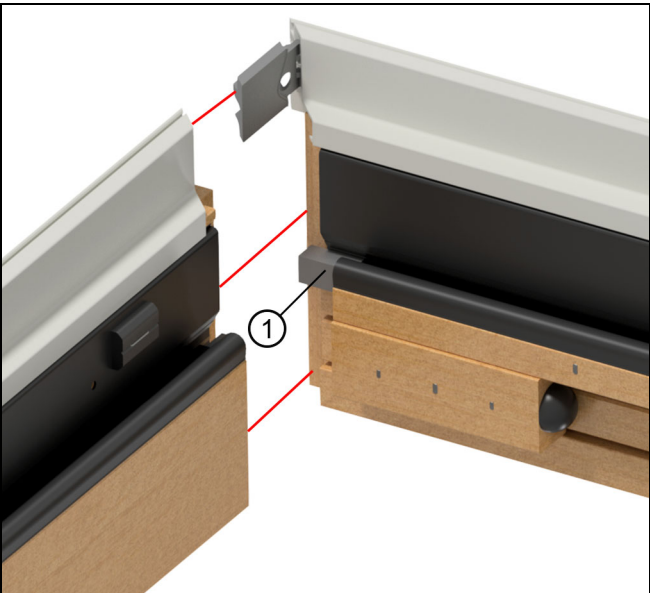
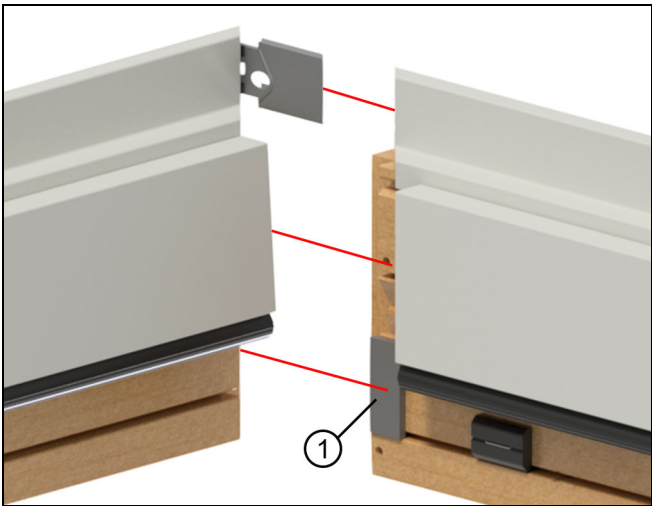

Figure 2 4 9/16"
Figure 3 6 9/16"
2. Assemble the head jamb into the side jambs being careful not to pinch the gaskets at the corners. See Figure 2 and Figure 3.